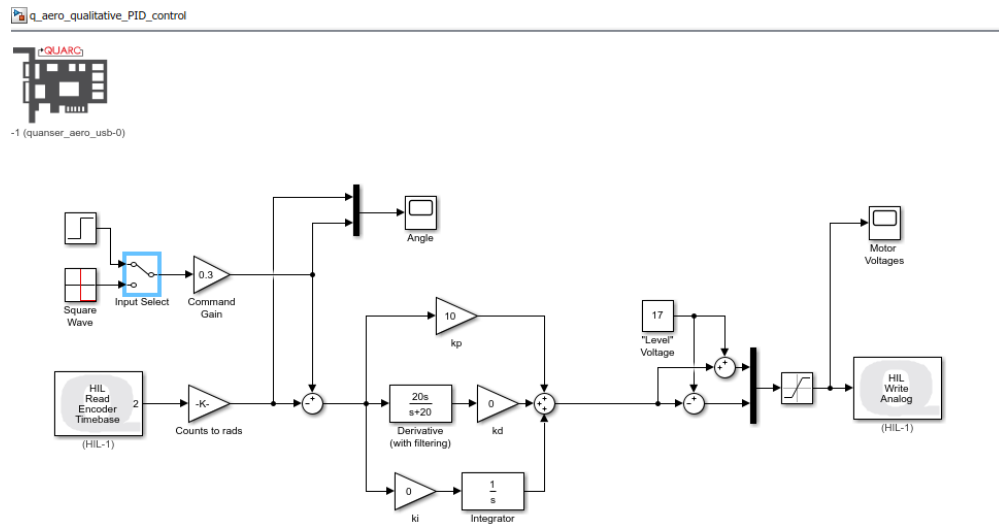

Figure 2.1: Unity-feedback block diagram
1. Open `q_aero_qualitative_PID_Control.mdl`. As shown in Figure 2.1 This **QUARC**[®] model implements basic command and unity feedback for the Quanser Aero. A control signal of 0 fed into the Motor Voltage Gain will command the Quanser Aero to remain at "Level" flight, that is, with +17V applied to both motors. The command signal is added and subtracted from the "Level" voltage for motor 0 and 1 respectively.